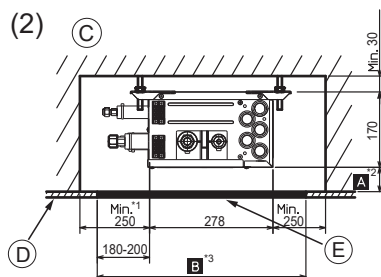
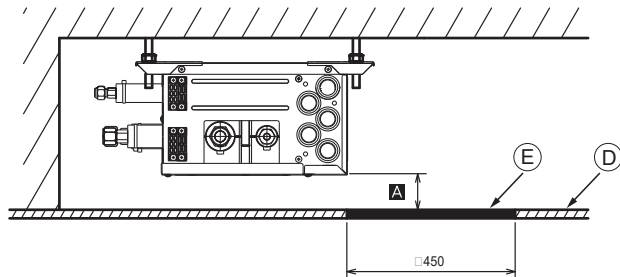
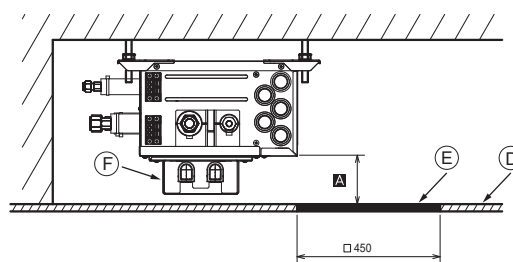

Fig. 2-2
Fig. 2-3
Fig. 2-4
(2) Side View (Fig. 2-2, Fig. 2-3, Fig. 2-4)
To install the optional reactor box, set Ⓐ to Min 270 mm <recommendation>. (Fig. 2-4)
In the case of "□ 450 mm", prepare a maintenance hole at a PCB side (as it is shown in Fig. 2-3, Fig. 2-4), and "Min 300 mm" is needed as distance Ⓐ.